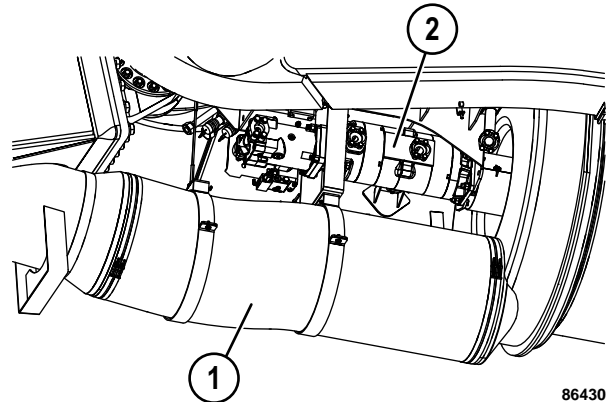

FIGURE 50-1. REAR AXLE BLOWER HOSE
2. Remove rear axle blower hose (1, Figure 50-1) to allow hoist pump (2) to be lowered from the pump mount bracket.